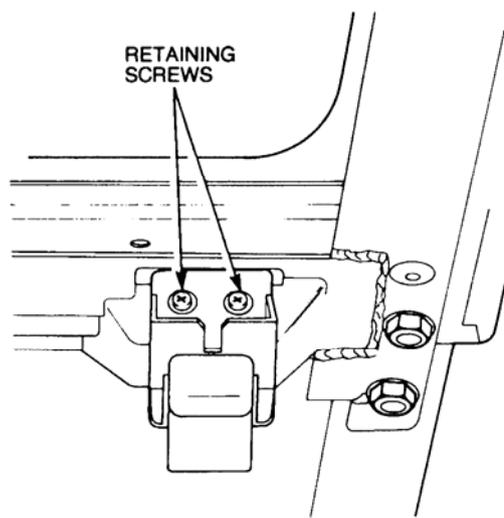

Figure 36 Interior Door Lock Button Removal
- aaa. Remove the screws and washers securing the interior door lock button to the door frame (refer Figure 36).
- a. Install the interior door lock button and secure with the screws and washers (refer Figure 36).